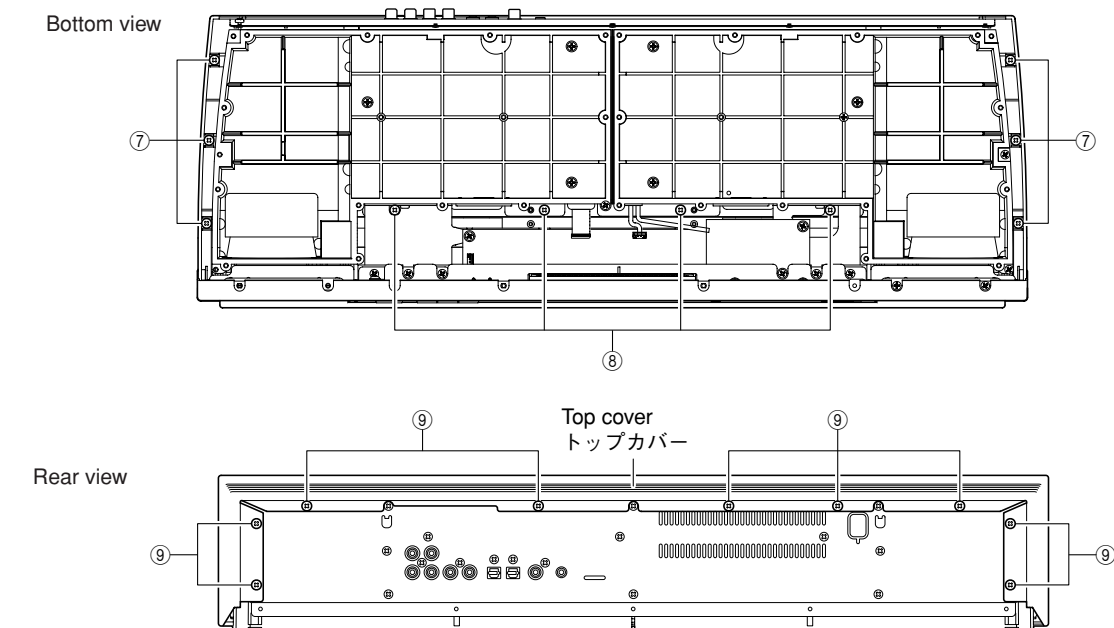

Fig. 2
- Remove 6 screws (⑦), 4 screws (⑧) and 9 screws (⑨). (Fig. 2)
- ⑦のネジ6本、⑧のネジ4本、⑨のネジ9本を外します。(Fig. 2)